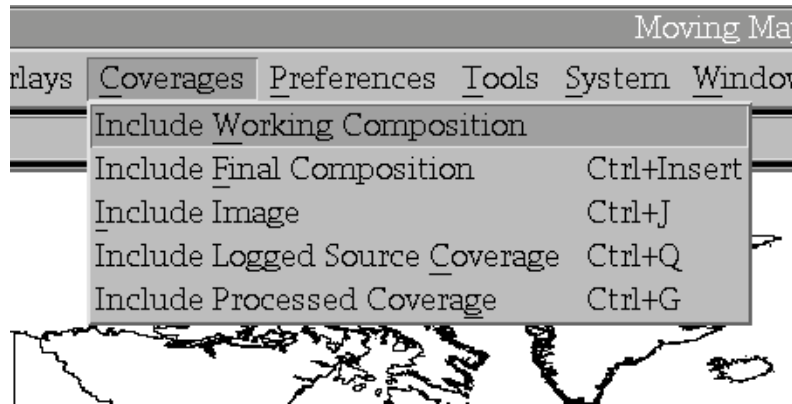

Fig. 21 – Coverages menu
- b. However, the composition may be included as part of another composition. This will allow the user to access the composition **LESSON4**, insert additional coverage, and then save a new final composition. From the main menu, click on *Coverages*, then *Include Final Composition* (Fig. 21), and then select the AOD composition **LESSON4**. Warning messages that are similar to those in Lesson 7, step 3, will be displayed, click *Acknowledge*. The **LESSON4** composition should now be loaded in MMC.